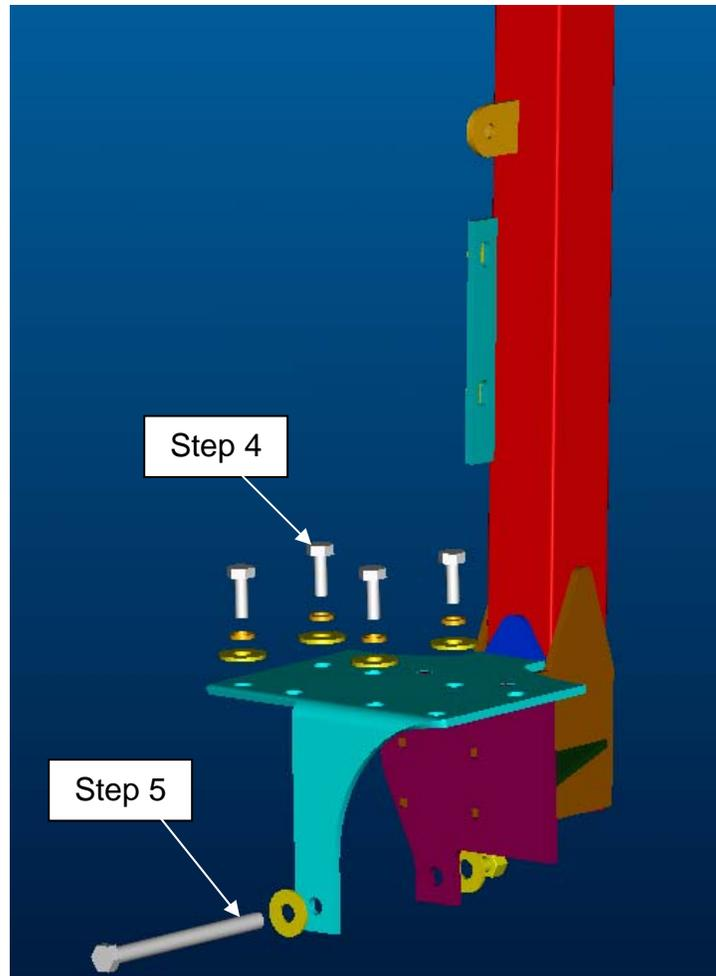

FIGURE 1
4. Install (4) hex head bolts M12 x 30mm long, (4) ½” lock washers and (4) ½” flat washers from top of each leg plate into tapped holes located on top of each side of the tractor axle housing. Leave all hardware loose until noted later in instructions. See Figure 1.
5. Install (1) ½-13unc x 6.50” long bolt, (2) ½” flat washers and (1) ½-13unc nylock nut, into the lower location of each leg. See Figure 1.